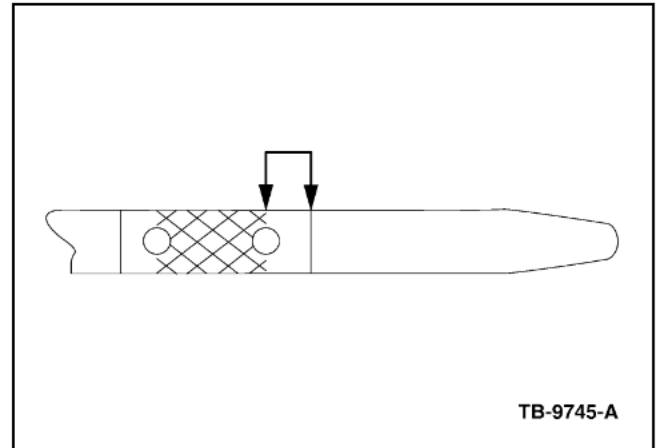

Figure 1 - Article 09-20-13
1. Transmission fluid level must be checked at operating temperature of 185 °F - 200 °F (85 °C - 93 °C), per Workshop Manual (WSM), Section 307-01. At this temperature, adjust fluid level between minimum line and the minimum hole at the bottom of the hash marks on dipstick. This level is within the safe operating fluid level and does not require the customer to have the fluid level readjusted after flat tow operation. (Figure 1)
If setting the fluid level for a customer that will be recreational (flat) towing the vehicle, set the level between minimum line and the minimum hole at the bottom of the hash marks on dipstick (Figure 1) per WSM Section 307-01.